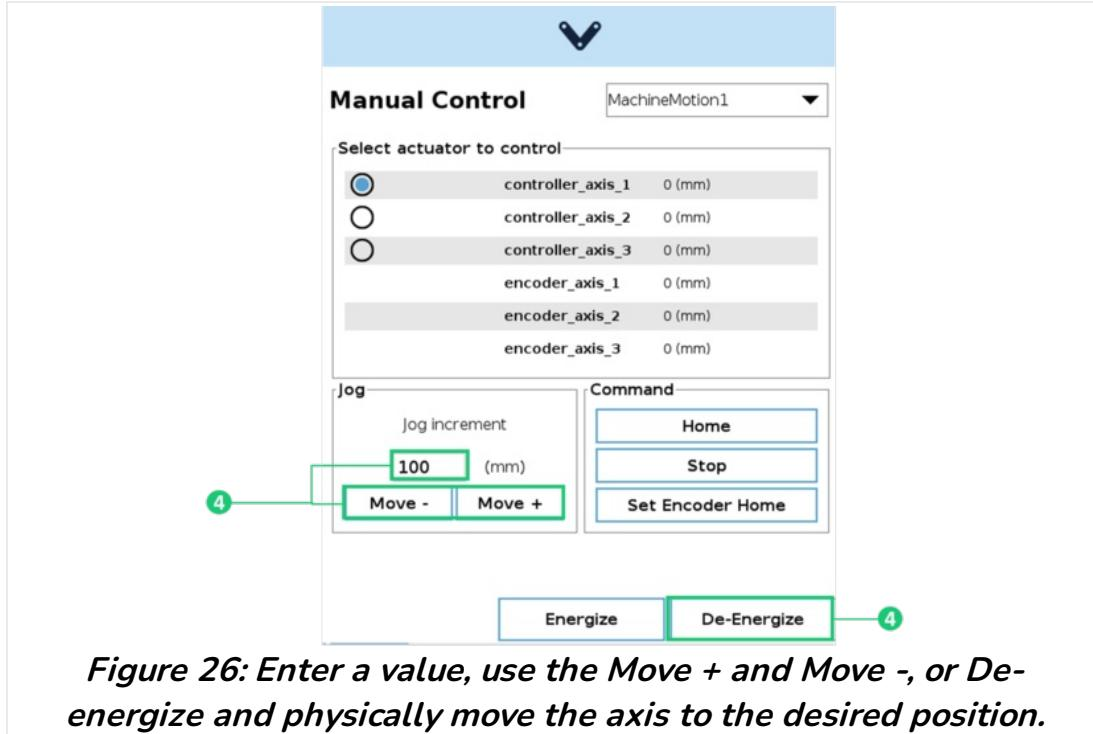

Figure 26: Enter a value, use the Move + and Move -, or De-energize and physically move the axis to the desired position.
6. Wait until the value of the desired position is populated in the **Actuator Position** before saving the program (see Figure 26).